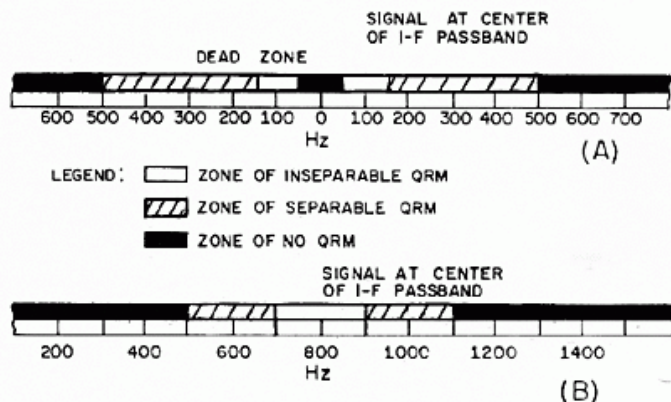

Fig. 2
Then all that is needed for deluxe code reception is to cut out all but the very low audio frequencies with a low-pass cascaded filter, and copy the cw signal at a note of 100 Hz. I honestly believe that this method of cw reception is not only simpler but far superior to the use of an 800-Hz toroidal filter, and almost as effective as the use of a mechanical filter. It sums up to this: When you get QRM 50 Hz off the signal frequency, even the best mechanical or crystal filter won't help you a wee bit if you are listening to the signal at a pitch of 800 Hz. On the other hand, if you are copying the same signal at a pitch of 100 Hz, you don't need a filter at all to discriminate against the QRM 50 Hz off! I know many readers are raising their eyebrows, but please take a good look at the chart in Fig. 2 which compares the "passband characteristics" of my 50-cent cw filter (A) and a \$25 mechanical filter used in the conventional way